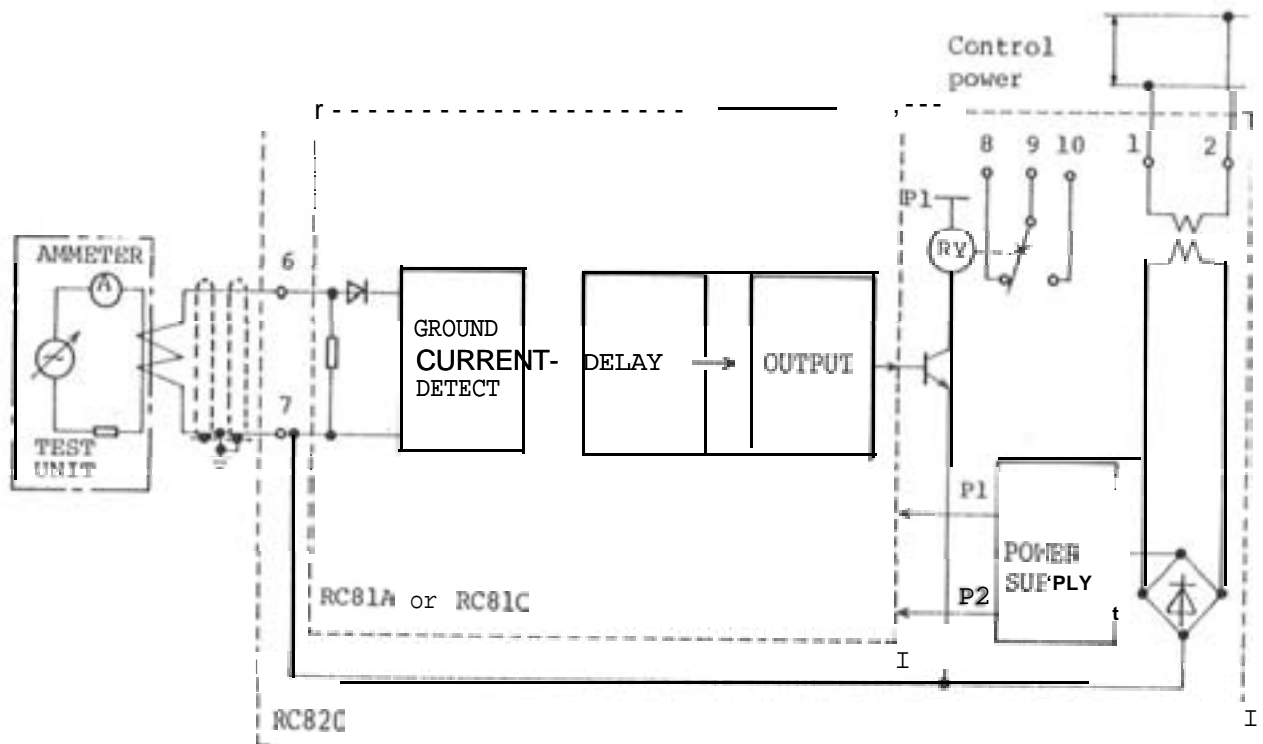

Fig. 13 Test circuit
1. Connect the sensor and relay as shown in FIG. 13.